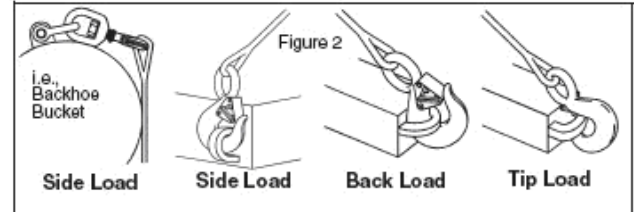

Figure 11.2: Improper hook loading
- Do not apply side loads, back loads, or tip loads on a hook (Figure 11.2).